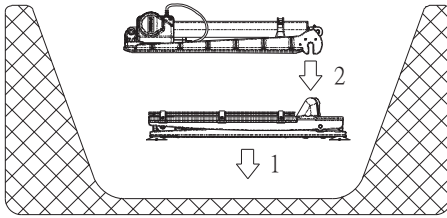

Fig. 2. Fit the Bath Lift into the bathtub.
3. Fit your Bath Lift into the bathtub as shown in Fig. 2 (Install the longitudinal direction of the Bath Lift parallel with the longitudinal direction of bathtub), and fix its position by pressing the four powerful suction pads. Before every use, make sure: